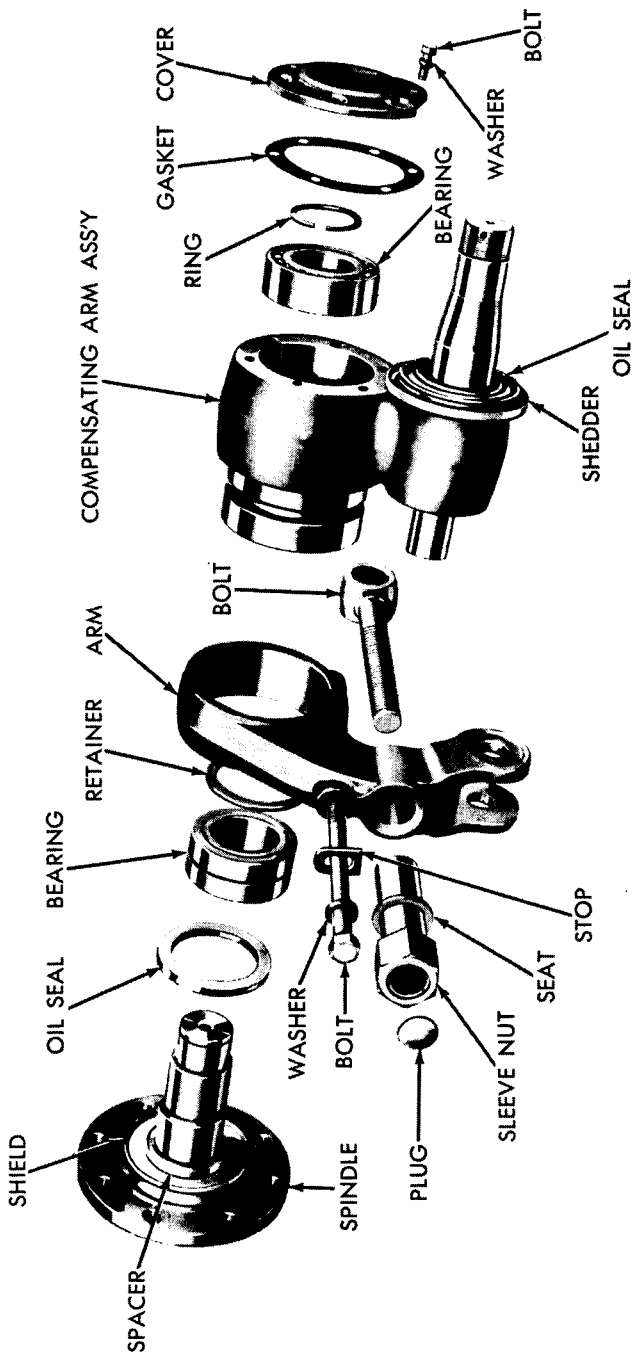

Figure 19. Compensating wheel arm and levers, disassembled.
(1) *Compensating wheel support lever arm spindle.* Inspect compensating wheel support lever arm spindle (fig. 19) for cracks or breaks. Inspect bearing seats on spindle for scores. Diameter of spindle for roller bearing should be 2.9982 to 2.9992 inches. Diameter of spindle for ball bearing should be 2.3604 to 2.3614 inches. Inspect snap ring groove on spindle for nicks or burs. Remove small nicks and burs with a fine file. Inspect roller and ball bearings for damage or roughness that may cause failure. Outside diameter of roller bearing should be 4.4992 to 4.5000 inches. Inside diameter of roller bearing should be 2.9994 to 3.000 inches. Outside diameter of ball bearing should be 4.3301 to 4.3307 inches. Inside diameter of ball bearing should be 2.3616 to 2.3622 inches.
(2) *Compensating wheel support arm assembly.* Inspect compensating arm assembly (fig. 19) for cracks or breaks. Inside diameter of roller bearing should be 4.5005 to 4.5020 inches. Inside diameter of ball bearing should be 4.3310 to 4.3325 inches.